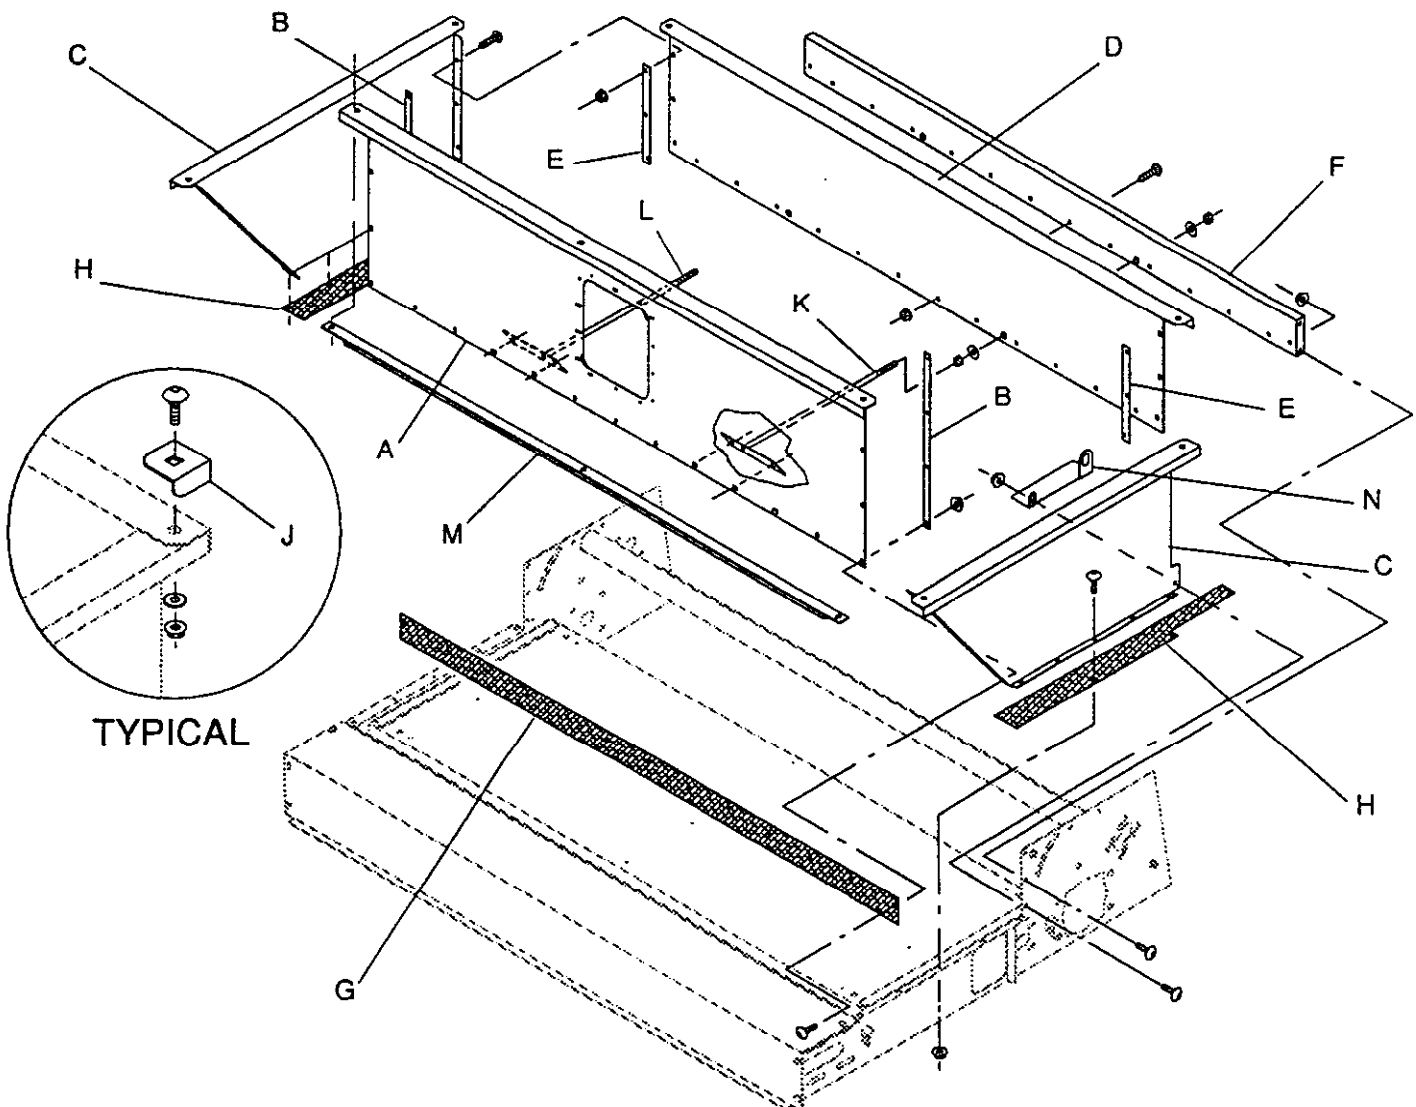
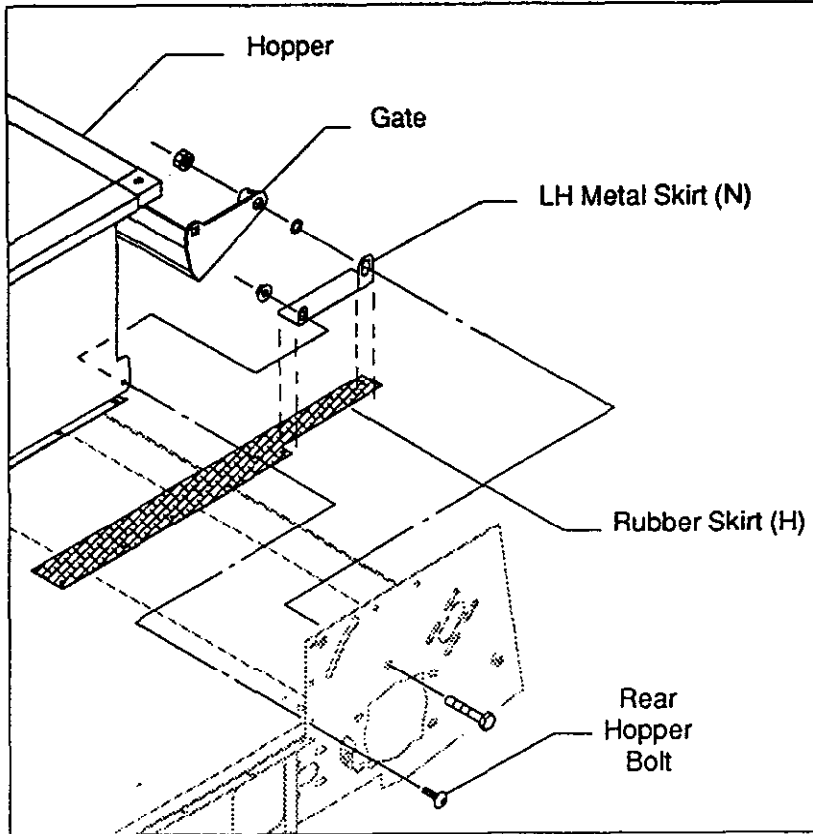

Figure 2
Figure 3
ASSEMBLE HOPPER (Fig. 2 & 3)
1. Attach the Hopper Brace (F) to Base Frame using (4) 1/4" x 5/8" carriage bolts and whiz nuts.
2. Attach both L.H. and R.H. Support Rods (K & L) through the hopper as shown in Fig. 2.
3. Attach the rear (D) to the Hopper Brace using 1/4" x 5/8" carriage bolts and whiz nuts. Assemble the sides (C), side Rubber Skirts (H) and Hopper Corner Strips (E) to the Rear (D). Do not secure hardware.
NOTE: Only the LH metal skirt is shown in Fig. 2 and Fig. 3.
6. Attach the Hopper Brace (M) under the front channel of the Hopper Front as shown in Fig. 2. Secure center holes with 1/4" x 5/8" carriage bolts.
7. Attach (4) Corner Brackets (J) to the corners of the hopper including the front Hopper Brace .